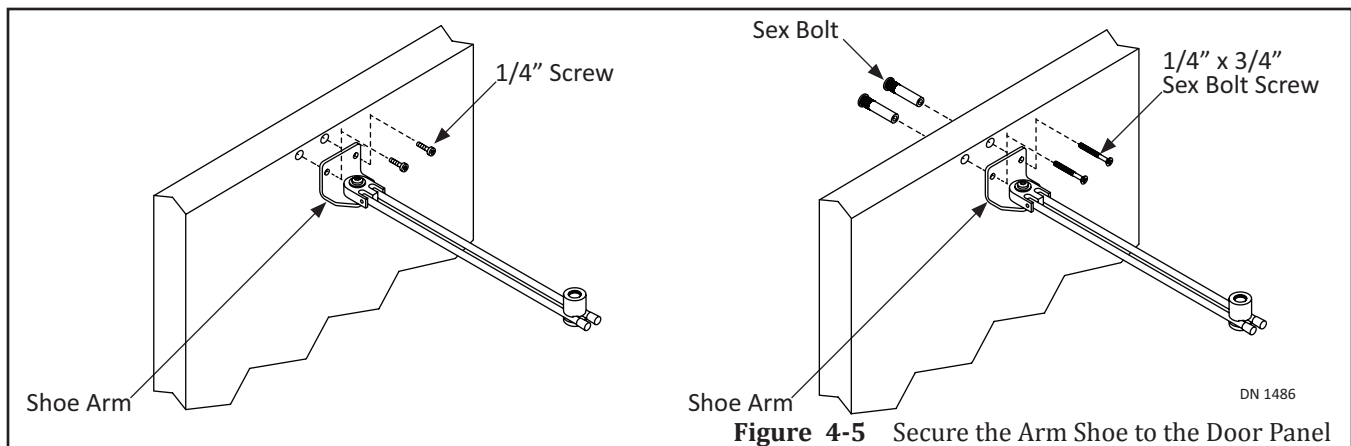

Figure 4-5 Secure the Arm Shoe to the Door Panel
4. The Arm Shoe Assembly can be installed with (2) 1/4 inch screws or with (2) Sex Bolts (a Sex Bolt kit has been provided by NABCO). Please see Figure 4-5.
- Align the first pre-drilled screw hole to the measured mark and use the Arm Shoe as a template to mark and drill (2) 1/4 inch screw holes. Ensure the Header is square and level.
- Align the first pre-drilled screw hole to the measured mark and use the Arm Shoe as a template to mark and drill (2) screw holes all the way through the Door Panel, so they are big enough to allow the sex bolts to be inserted. Ensure the Header is square and level.
5. Secure the Arm Shoe to the Swing Door with (2) 1/4 inch Screws or (2) 1/4 x 3/4 inch Sex Bolt Screws.